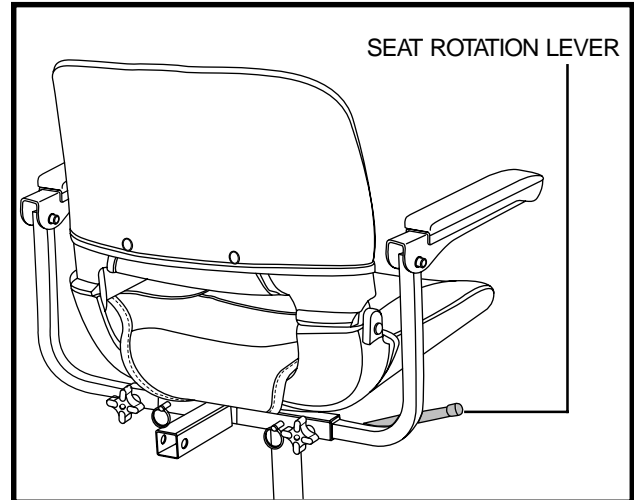

Figure 16. Seat Position Adjustments
1. Push forward on the seat rotation lever to disengage the seat. **See figure 16.**